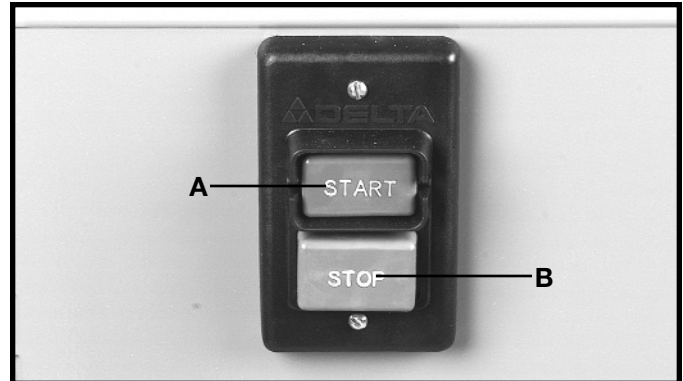

Fig. 17
To turn the machine **"ON"**, push the green start button (A) Fig. 17. To turn the machine **"OFF"**, push the red stop button (B).